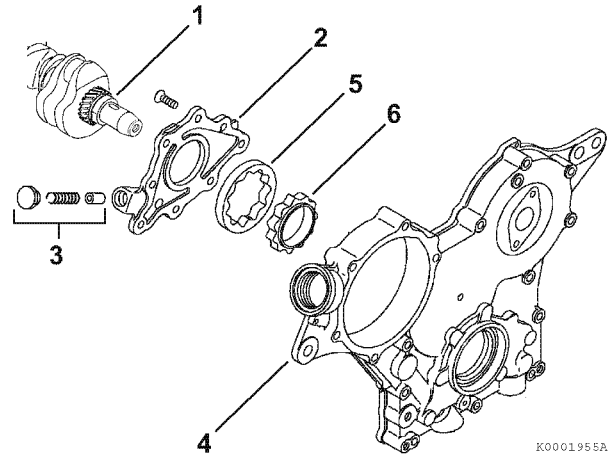

**Figure 9-2**
1. Disconnect the wire lead from the oil pressure switch or sending unit (**Figure 9-2, (1)**).